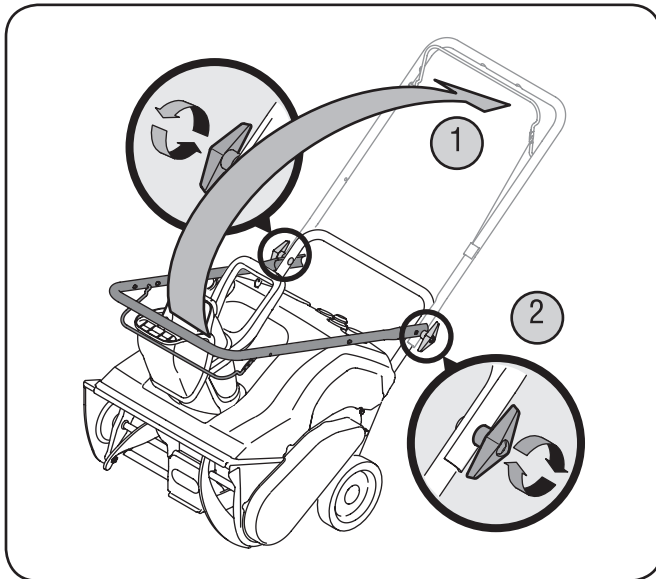

Figure 3-1
1. Making sure not to pinch the cable in the process, pivot the upper handle into the operating position as illustrated in Fig. 3-1 until it clicks into place.
2. Tighten the wing knobs to secure the handle in place. See Fig. 3-1.